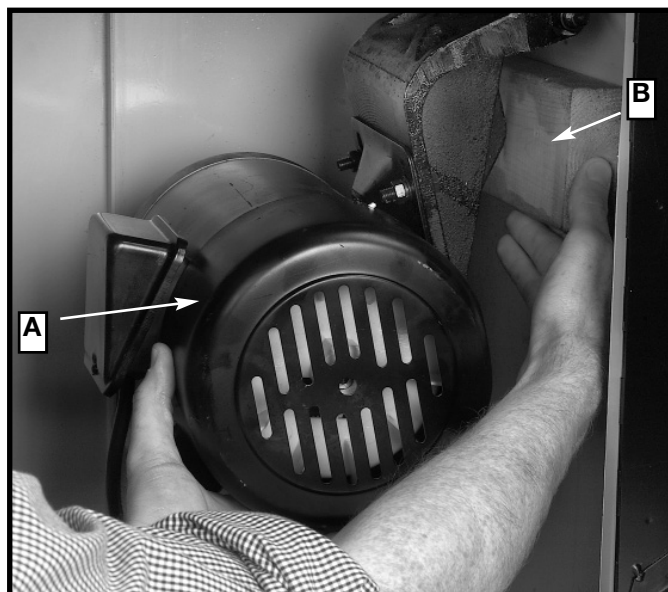

Fig. 8
While lifting motor (A) Fig. 8, place a 10-12 inch long piece of 2x4, or another similar thickness of wood, (B) Fig. 8 as shown. This will help prop up the motor and will make it easier to install the grooved belt, (C) Fig. 8A.